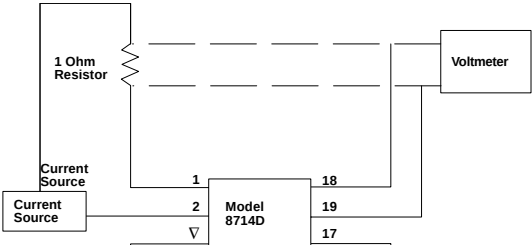

FIGURE 3. Set-up Model 8714D and the transmitter as shown.
- Set-up your equipment according to Figure 3.